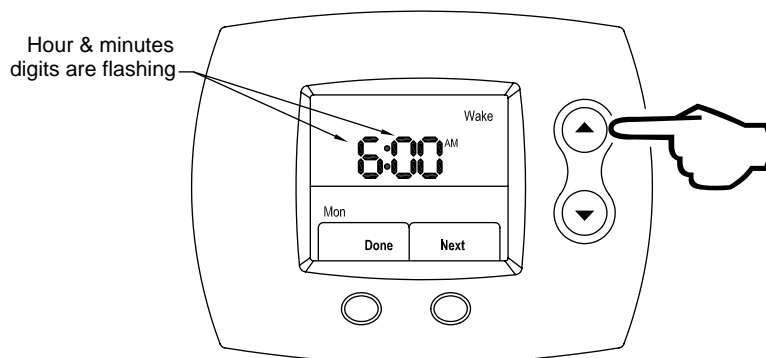

Figure 50
Step 3: Press the **UP** (increase time) or **DOWN** (decrease time) buttons until the wanted time is shown. This is shown in Figure 50.